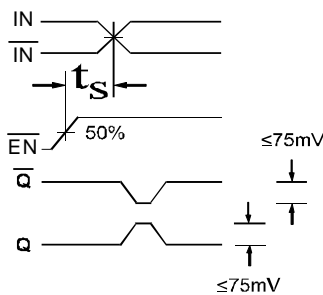

Figure 1. Setup Time
- The setup time is the minimum time that EN must be asserted prior to the next transition of IN/ IN to prevent an output response greater than $\pm 75mV$ to that IN/ IN transition (see Figure 1).